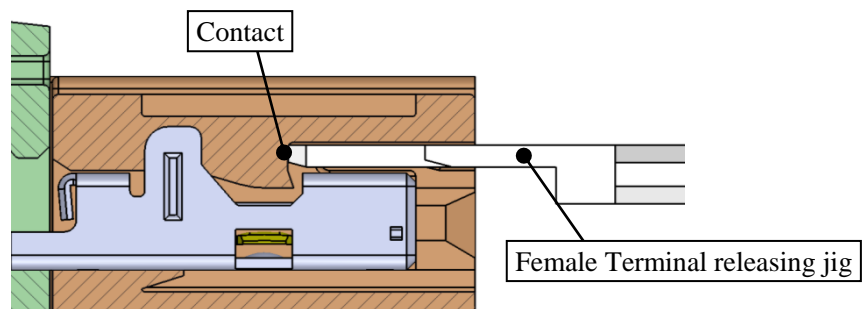

Fig32. Correct orientation of the releasing jig and the housing lance
- ③ Push the releasing jig fully into the lance, then lever up the lance as shown in Fig.32 and 33 . Keep the jig in the place and pull the terminal out by holding the wire.
- ④ If there is any difficulty in pulling out the terminal, do not pull it forcefully. Check that the jig is in the correct place, that it is pushed fully in, etc. and repeat the procedures ① to ③.